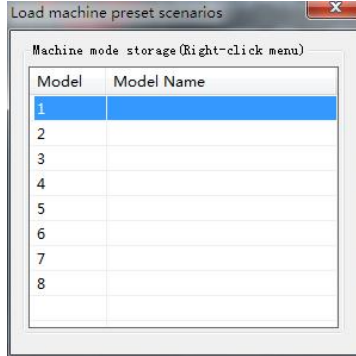

Figure 3.4.5
**Step2:** Click "Load machine preset " item will pop up after loading machine preset scene window dialog box (Figure 3.4.5).
**Step3:** As dialog box of figure 3.4.5, select the machine where the user wants to load a preset number (as selected on the 3rd), and then point below the "Load" button on the pop-up shown 3.4.6 loading data transfer progress shown in the wait window.